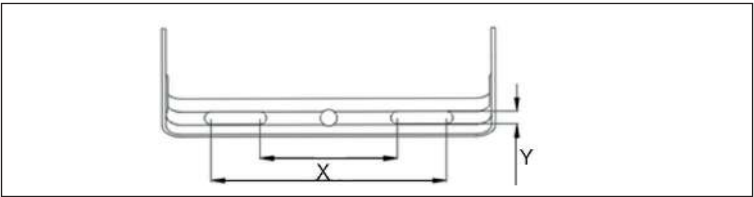

Fig. 5: Borehole distance
2. Open the M16 cable gland by turning it anticlockwise until the terminal block is exposed as in fig. 5.